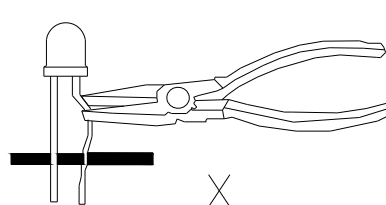

Fig. 7
5. During lead forming, use tools or jigs to hold the leads securely so that the bending force will not be transmitted to the LED lens and its internal structures. Do not perform lead forming once the component has been mounted onto the PCB.(Fig. 7)